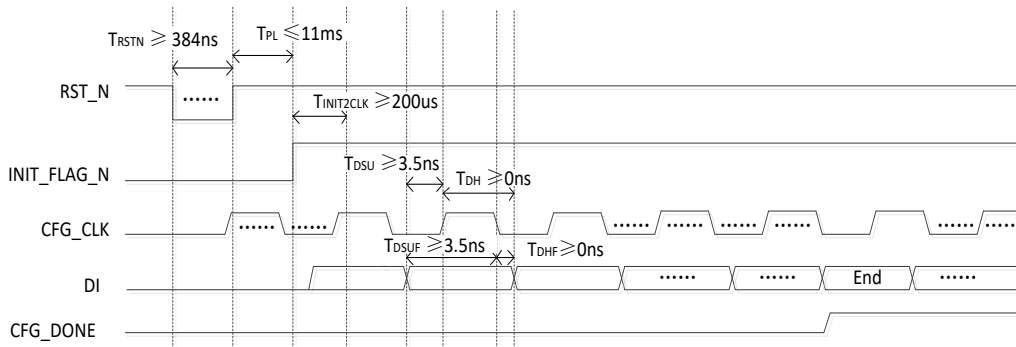

Figure 2-15 Typical Timing for Slave Serial Programming
When using serial daisy-chain configuration, each-stage device will sample DI from the rising edge of CFG_CLK for its own configuration and also sample DI from the falling edge to output configuration for the next level. Therefore, during cascaded configuration, the Host needs to consider both the rising and falling edges to meet the setup and hold time requirements. Figure 2-15 shows the typical timing for the Slave Serial programming mode.
2. As shown in Figure 2-15, the timing sent by the Host must meet the setup and hold time requirements for sampling DI from the rising and falling edges of CFG_CLK.